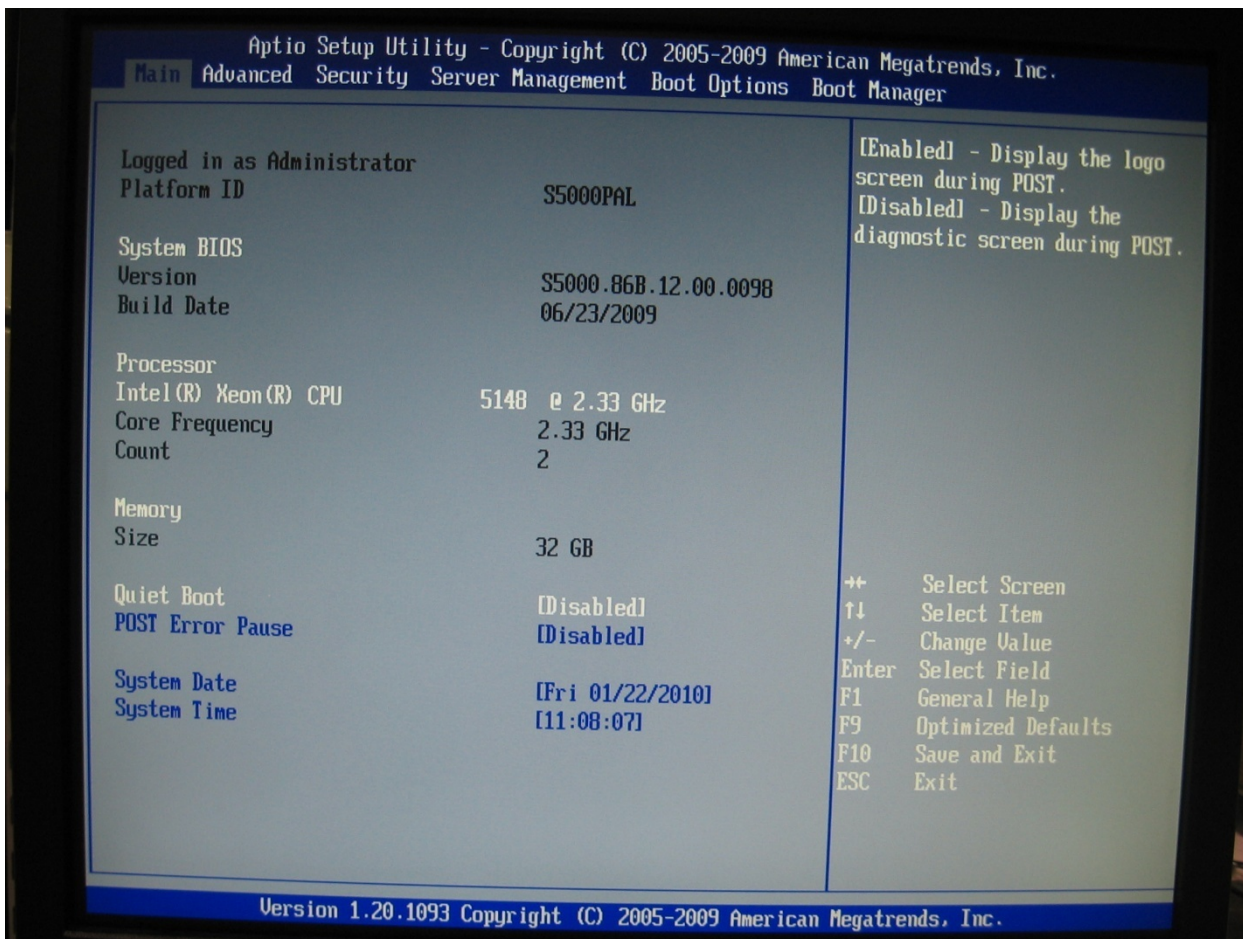

Figure 6-11 Quiet Boot
1. Press F2 to access the **Main BIOS Page**. On the **Main Page**, Select **Quiet Boot** then select **Enable** and press **Enter**. (Figure 6-11).